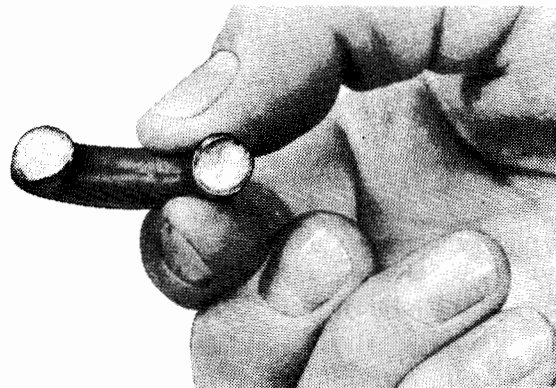

Fig. 11-85 Ball Return Guides Plugged with Petroleum Jelly
(5) Fill one ball return guide with remaining balls. Place other guide over balls and plug ends with petroleum jelly to prevent balls from falling out when installing guide into rack-piston nut (fig. 11-85).